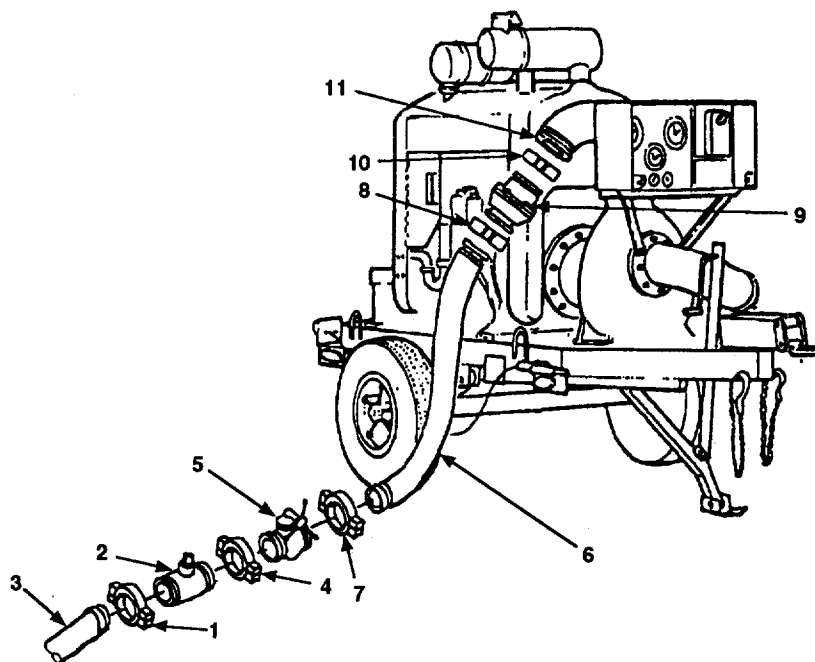

Figure 2-69. Disassembly of Lead Pumping Station (Discharge Port).
- h. Remove 6 inch grooved pipe coupling (Figure 2-69, 1) (para 2.3.2.1) connecting pressure relief valve assembly to (2) downline hoseline (3). Remove downline hoseline segment (3).
- i. Install 6 inch grooved pipe coupling (1) (para 2.3.2.2) on end of downline hoseline segment (3).
- j. Remove grooved-end quick disconnect coupling clamp (4) (para 2.3.3.1) connecting pressure relief valve assembly (2) to 6 inch butterfly valve assembly (5) on discharge hose assembly (6). Remove pressure relief valve assembly (2).
- k. Remove grooved-end quick disconnect coupling clamp (7) (para 2.3.3.1) connecting 6 inch butterfly valve assembly (5) to discharge hose assembly (6). Remove 6 inch butterfly valve assembly (5).
- l. Remove grooved-end quick disconnect coupling clamp (8) (para 2.3.3.1) connecting discharge hose assembly (6) to check valve (9). Remove discharge hose assembly (6).
- m. Install grooved-end quick disconnect coupling clamp (8) (para 2.3.3.2) on end of discharge hose assembly (6).
- n. Remove grooved-end quick disconnect coupling clamp (10) (para 2.3.3.1) connecting check valve (9) to discharge port (11) on 600 GPM pumping assembly, refer to applicable technical manual for location of discharge port on 600 GPM pumping assemblies not shown. Remove check valve (9).